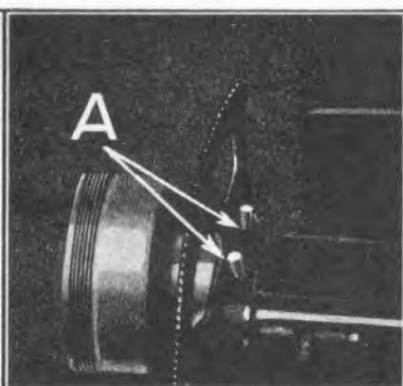

Fig. 393
- 761 Insert the two internal gear case pins through tubing and case. When replacing pins in an old gear case it is advisable to use No. 2 taper pins (See "A" Fig. 393) as the pin holes in both tubing and case wear slightly oversize and sometimes become enlarged when driving out the old pins.